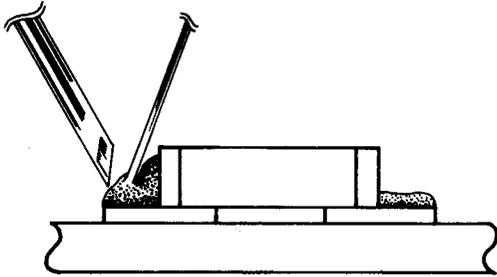

FIGURE 2.6
5. With one component end tacked to hold it, the other end can be soldered. Carefully apply heat to the PC pad while adding only enough fresh solder to produce a clean fillet as in Figure 2.6. Do not apply too much solder, otherwise it may flow underneath and short the pads together. Let the hot solder flow onto the component — avoid touching the component with the iron. Repeat to finish the first end of the component. Solder must adhere to all metallic end-surfaces on both ends and make a concave fillet.